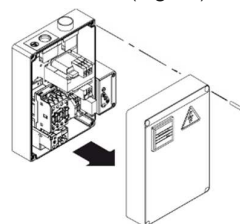

Fig 5.2 Starter Cover
5.4 Electrical Installation (Fig 5.2, 5.3, 5.4)
Remove 4 Screws and Starter Cover (Fig 5.2).